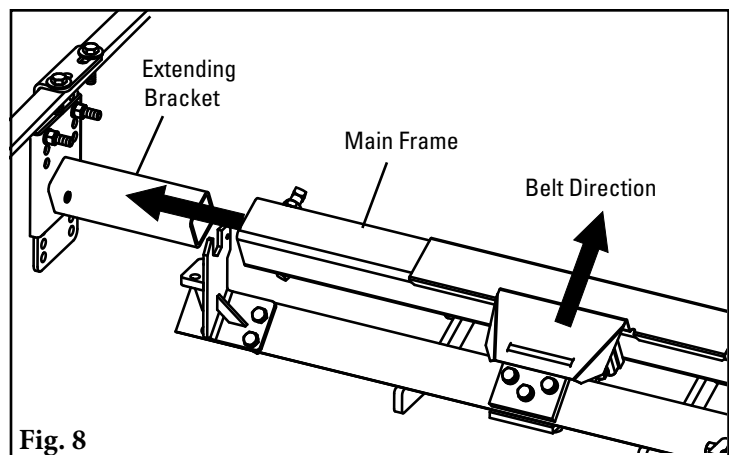

Fig. 8
8. **Slide the far end of main frame** onto the extending bracket assembled in Step 7 (Fig. 8).